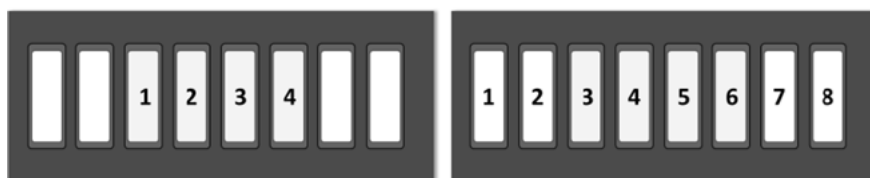

Figure 108 - Chip loading positions for 4, and 8 Single-Cell Secretome Chips
3. Chips need to be loaded from the "inside out" (not "left-to-right") as shown in Figure 108: